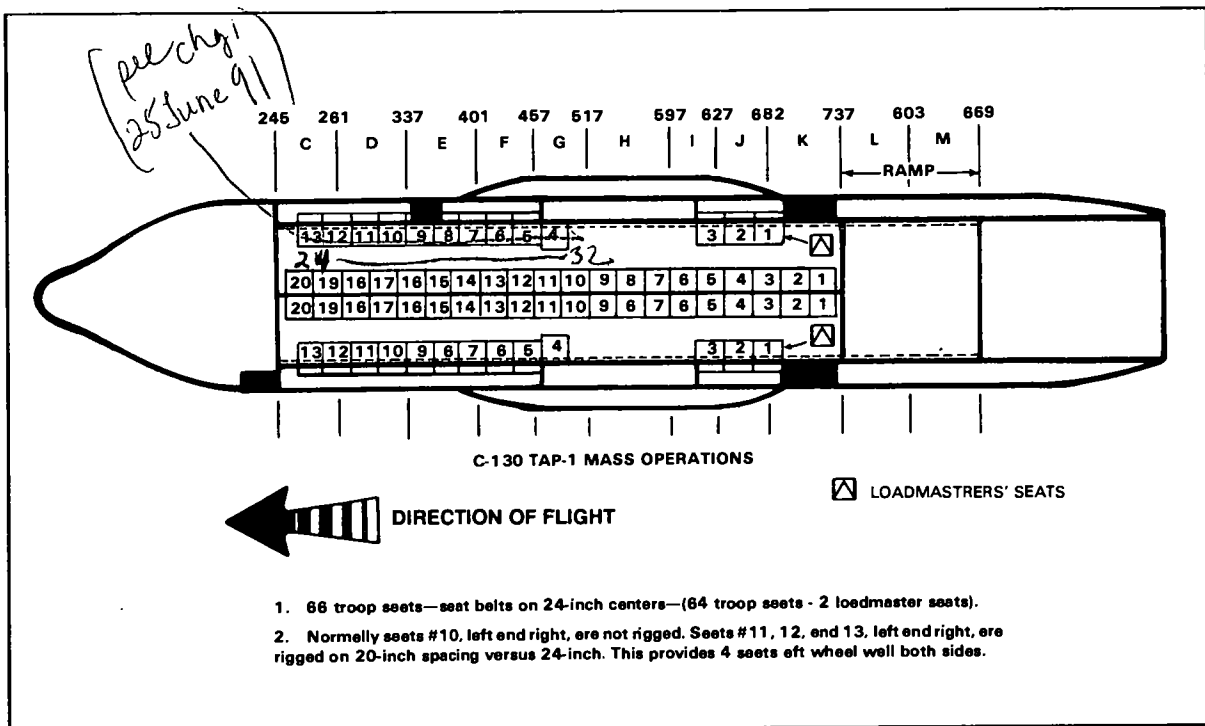

Figure 11-2. Seating configuration.
a. **Peacetime Training.** A total of 64 parachutists is seated in two sticks of 32. Nos. 1, 2, and 3 are seated outboard aft of the wheel well; 4 through 23 are seated on the inboard seats; and Nos. 24 through 32 are seated outboard forward on the wheel well (Figure 11-2). Parachutists are normally loaded over the aft end loading ramp.